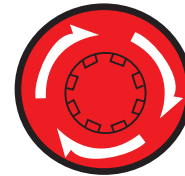

Figure 37. Emergency Stop Switch
1. If equipped, press the **Emergency Stop switch** (Figure 37) to stop the engine in the event of an emergency.